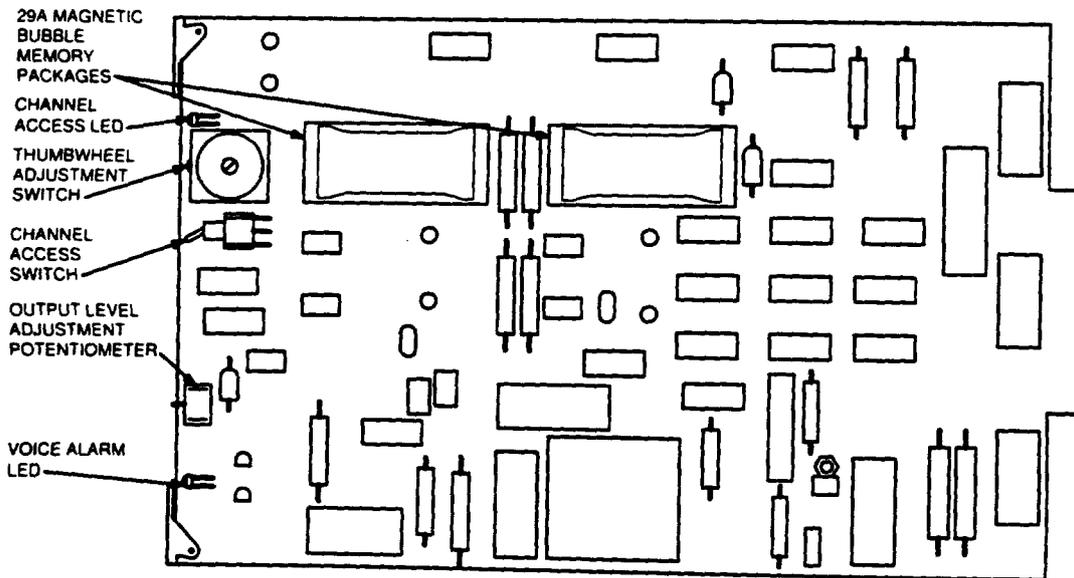

Figure 4. UD4 VML Message Module Circuit Pack (Series 1 Through 14) With 29A Bubble Memories
2.07 UD4—VML (3-24) Message Module Circuit Pack: This circuit pack provides variable message length (VML) storage for 3 through 24 seconds of recorded information. The storage length is variable in 3-second increments by operation of a thumbwheel adjustment switch mounted on the circuit pack. The controls and indicators mounted along the front edge of the pack (Figure 4) are described in Table C.